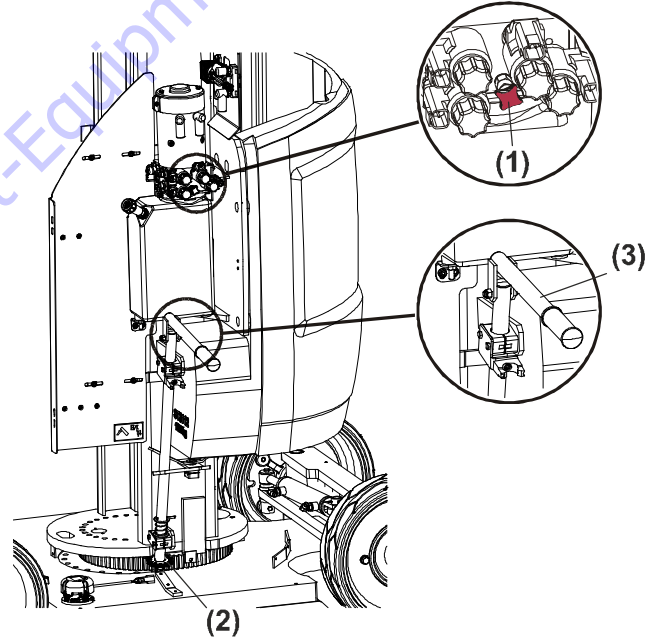

Figure 3-14. Manual Swinging Operating Devices - 10E
- a **rotary valve (1)** located on the pump/motor control valves assembly to release the swinging motor (Refer to Figure 3-14.).
- a **pinion (2)**, located below the pump/motor control valves compartment, that can be operated using the **folding lever (3)**.